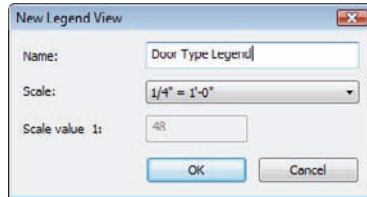

FIGURE 11.40 Choose $1/4" = 1'-0"$.
2. The next dialog wants you to specify a scale. Choose $1/4" = 1'-0"$. This is fine for now (see Figure 11.40).